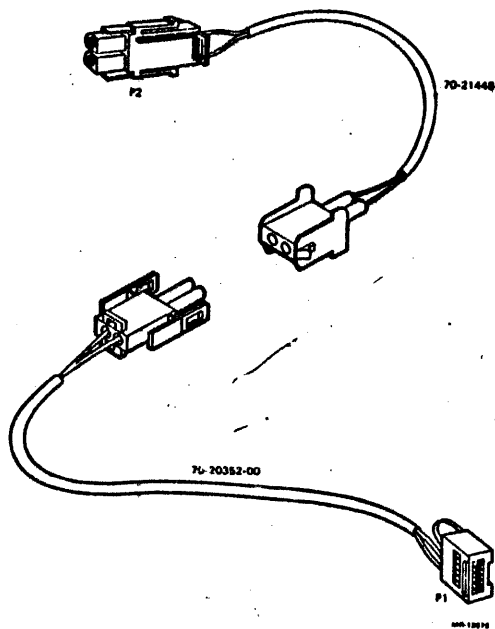

Figure 3-9. DC Voltage Monitor Cable
8. Locate the DC Voltage Monitor Cables, DEC part numbers 7020352-00 and 7021448-5C, as shown Figure 3-9. Connect P2 to J5 on the CI card cage, and route the other end to the DC voltage monitor panel. Locate the switches on the DC Voltage Monitor board. Switch 1 should be on and all other switches should be off. Plug the DC voltage monitor board, DEC part number 5414506-00, into the +5 volt slot as shown in figure 3-2.